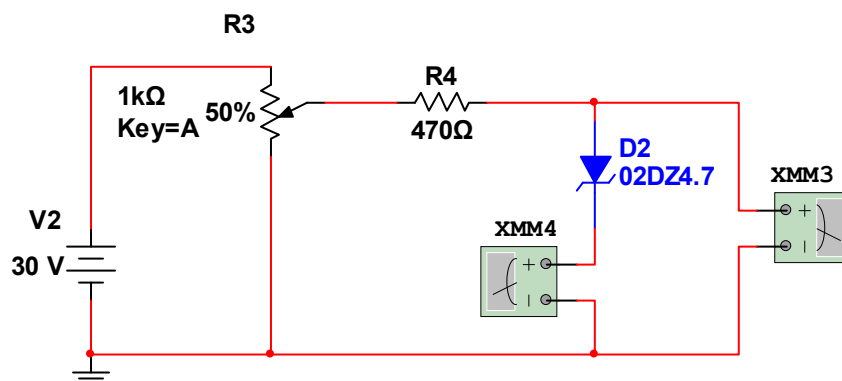

Figure 2.2: Reverse Bias Circuit of Zener Diode
- ❖ For reverse bias characteristic, make the connections as shown in the figure 2.2.